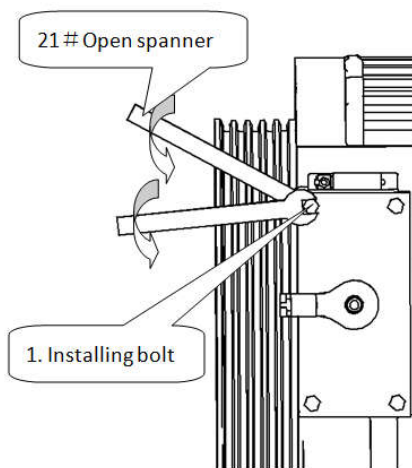

Fig. 1.3
- a) Rotate 4 installing bolts counterclockwise with 21 # open spanner until the guide screw can rotate. Refer to fig.1.3.